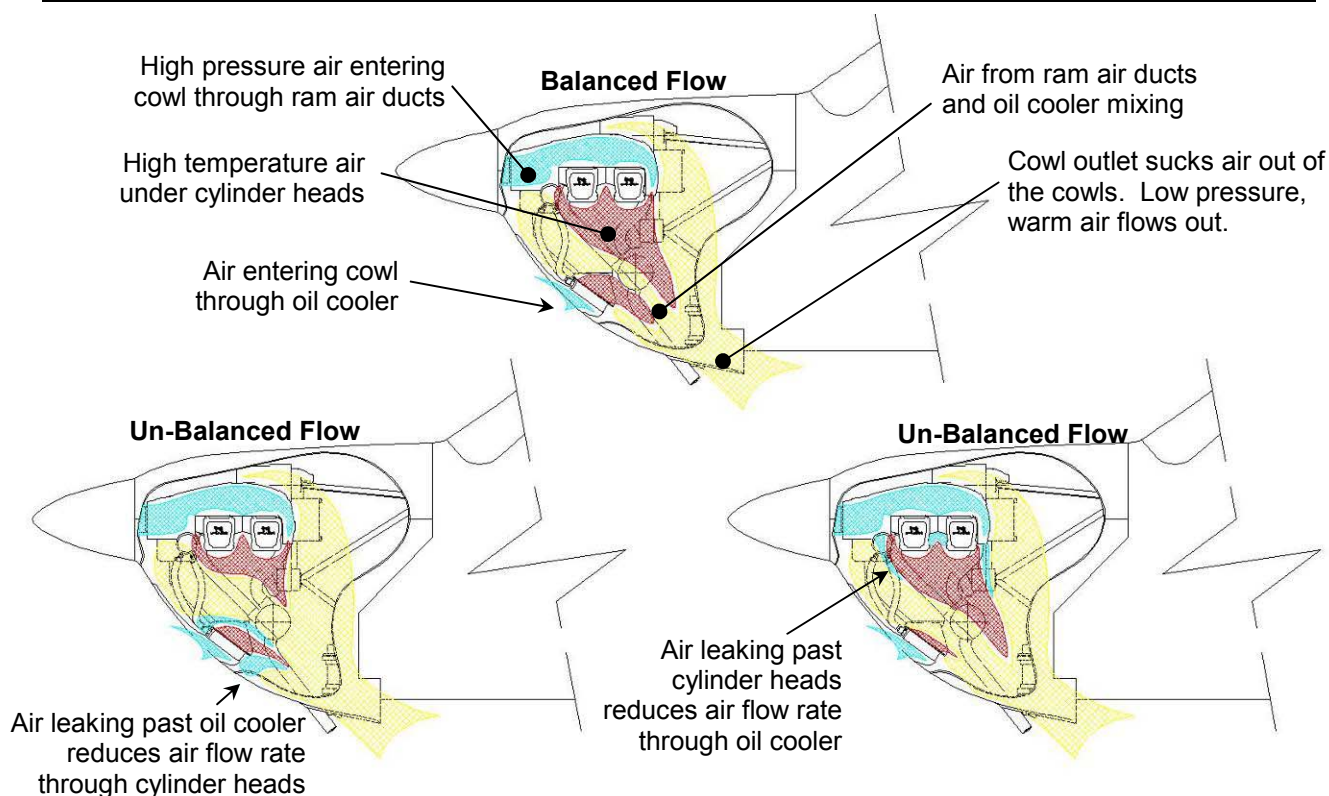

Figure 43. Cowl Airflow (Best Viewed in Colour)
- A generalised picture of the airflow and air temperature is shown in Figure 43.